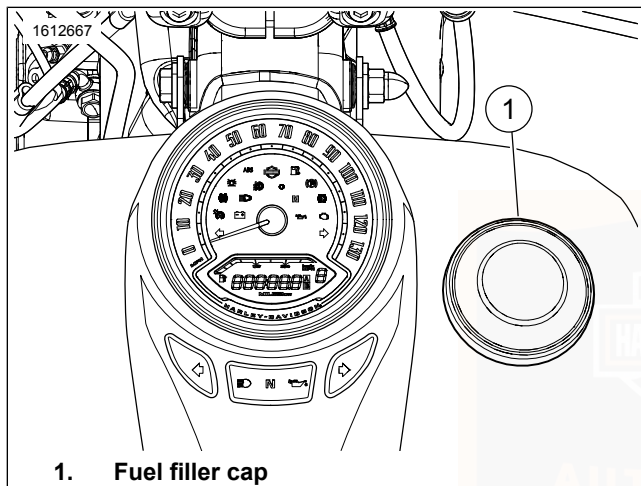

Figure 7. Fuel Tank
See Figure 7. Turn fuel filler cap (1) counterclockwise to remove. The cap turns approximately three-quarters of a turn before it begins to loosen.